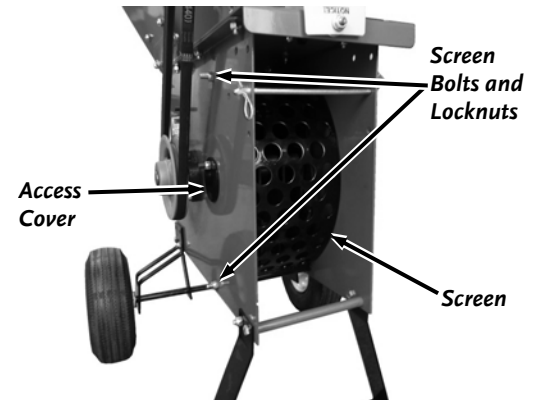

Figure 26
4. Using Two 1/2" Wrenches, Remove the locknuts and Screen Bolts to remove the Screen (**Figure 26**).